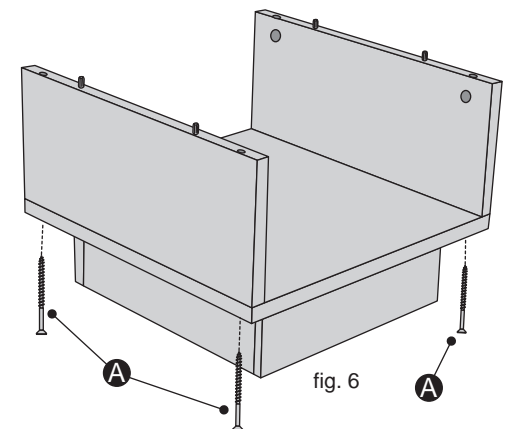

fig. 6
3. Use Screws **A** to fix the Table Side Panels **D** onto the unit. See fig. 6.